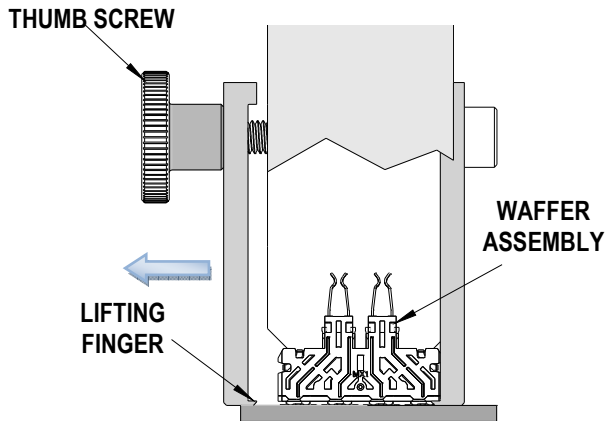
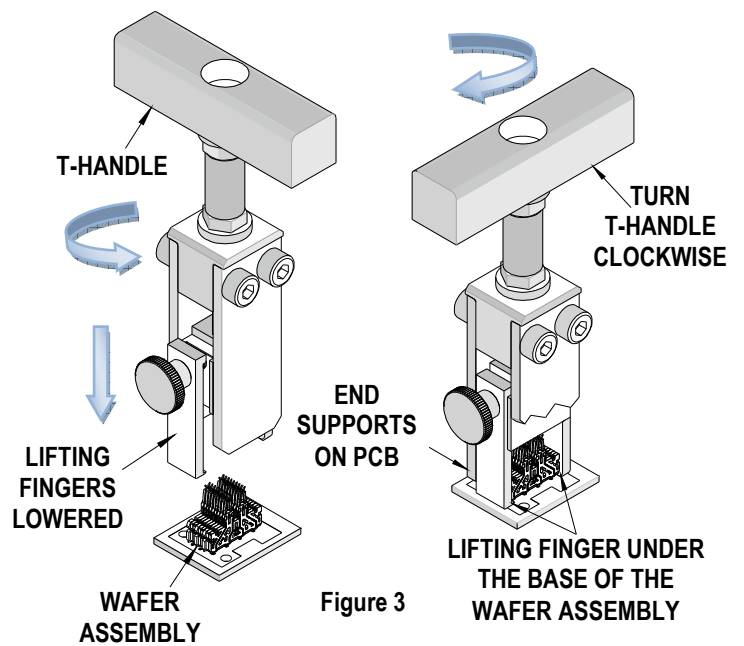

Figure 2
Figure 3
2. Turn the thumb screw counter-clockwise (CCW) so the lifting finger can be adjusted to fit over the wafer assembly. See Figure 2. Once the lifting fingers are over the wafer turn the thumb screw clockwise (CW) until both lifting fingers are securely under the wafer. See Figure 3.
5. With the removal tool away from the PCB, take the wafer assembly out of the tool by turning the T handle counterclockwise until the lifting fingers are exposed. Loosen the thumb screw enough so all the wafers can be removed. See Figure 3. Pull the wafer assembly up slightly and slide it out of the side of the tool.